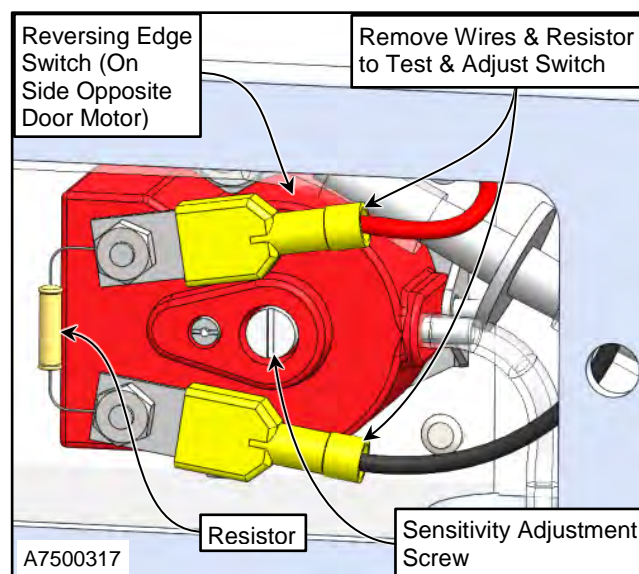

Figure 39
1. The reversing edge switch is a normally-open contact. The PVC hose is on the lower air input post. To adjust the switch, first remove the wires and resistor from the contact terminals and attach an ohmmeter across the two terminals. (See Figure 39)
2. Turn the adjustment screw, located on the face of the switch, clockwise or counterclockwise until continuity is achieved. Then turn the screw two full turns counterclockwise. The ohmmeter should no longer show continuity. Turning the screw counterclockwise decreases sensitivity. Turning the screw clockwise increases sensitivity. (See Figure 39)